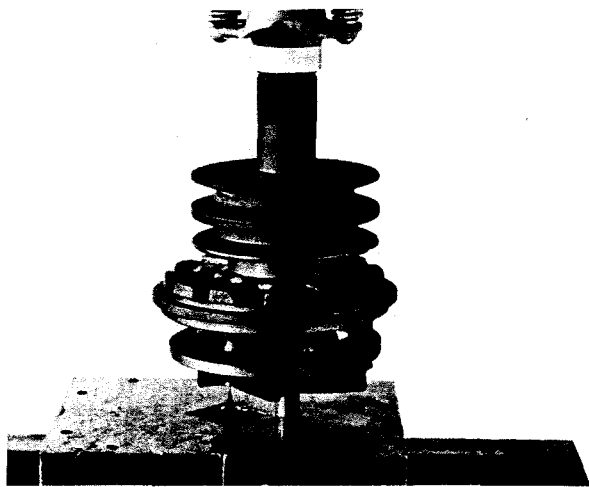

Fig. 8-12, (N10856). Pressing pulley in place
- c. Install clean relief fitting (8).
- d. Support water pump assembly on impeller end of shaft – not on impeller – and press pulley (1) on shaft until pulley hub is tight against the outer bearing (3) inner race. Fig. 8-12.